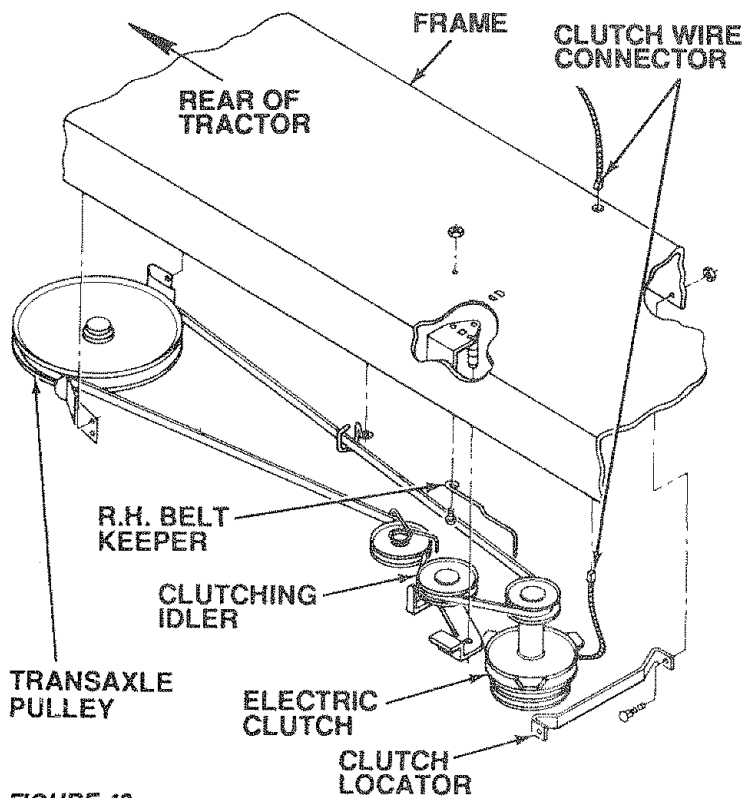

FIGURE 43
- Using a 1/2" wrench, remove the clutch locator (Fig. 43).
- Using a 9/16" wrench, loosen the right hand belt keeper (Fig. 43).
- Disconnect clutch wire connector. Push connector through frame (Fig. 43).
- Pull belt slack toward rear of tractor. Remove belt from transmission pulley by deflecting keepers to force belt up and out of pulley. (Use belt to push keepers away from pulley.) (Fig. 43.)